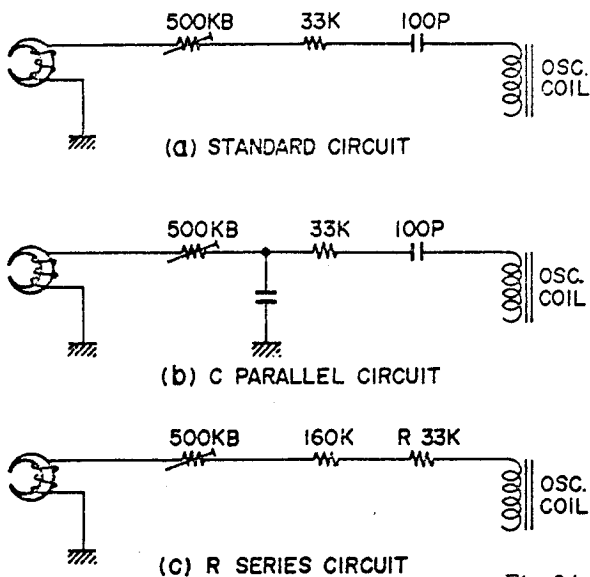

Fig. 24
2. On machines employing the bias adjustment circuits shown in (b) and (c) of Fig. 24, after the Rec/Playback Head has been replaced, it becomes impossible to adjust the bias voltage. In this case, replace with the circuit shown in (a) of Fig. 24 and adjust bias voltage.